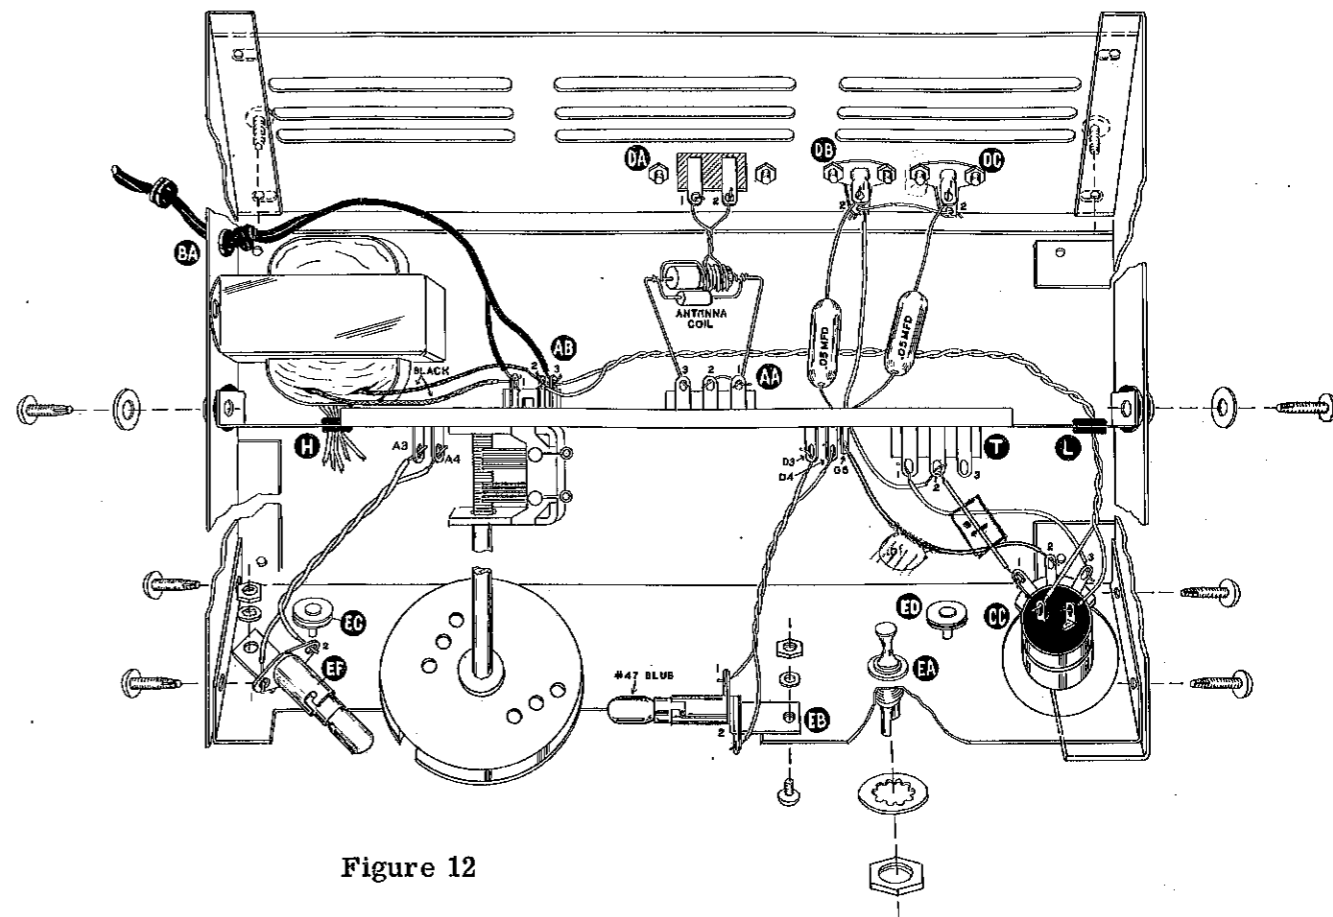
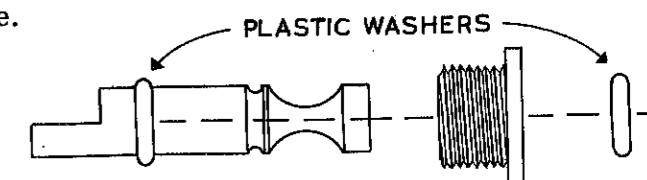
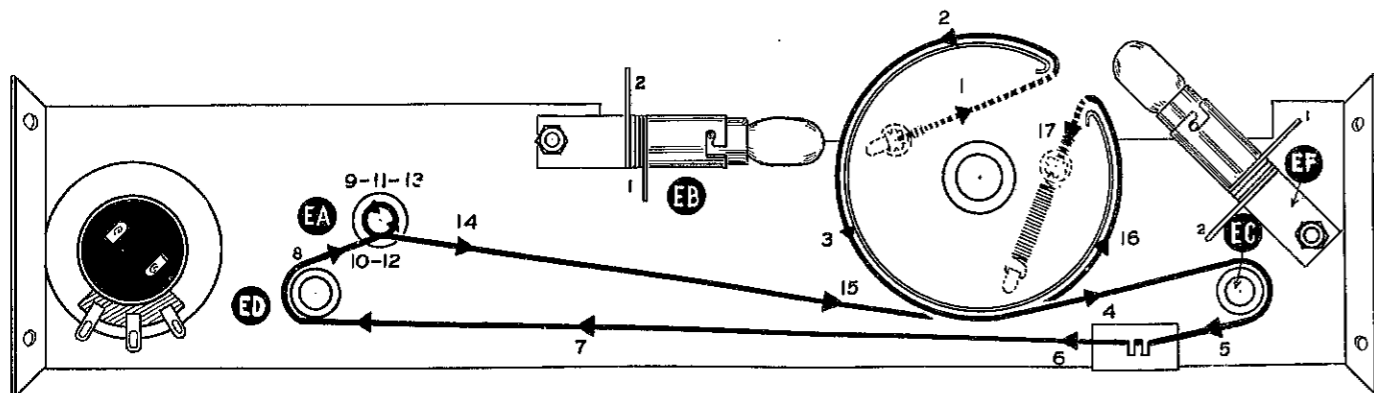

Figure 12
Figure 16
Figure 17
- (✓) Mount bracket B on the left or tuning condenser end of the chassis, with the transformer fitting over the chassis top as shown in Figure 12. Place a 9/16" washer on a 6-32 self-tapping screw and insert through the spacer previously installed in grommet BH. Line the screw up with the top chassis opening and secure the assembly. Before completely tightening the screw, start the second self-tapping screw and washer through the bottom opening BJ. Now tighten both screws.
- (✓) Install two 7/16" grommets in the large openings in the right hand bracket and insert the 3/16" metal spacers in each grommet. Install the bracket on the right hand end of the chassis in the same fashion. The large hole should be forward. See Figure 12.
- (✓) Place the red, red-yellow and green power transformer leads through grommet H on the chassis. Cut one green lead to length sufficient to reach socket A3, strip and tin the lead and connect it to A3 (NS).
- (✓) In the same fashion, connect the remaining green lead to socket A4 (NS).
- (✓) Cut two wires to a length of 3 1/2". Strip all four ends and twist together. At one end of the twisted pair, connect one lead to socket A3 (S) (3) and the other to A4 (S) (3).
- (✓) Connect the red-yellow lead to terminal strip M2 (S) (1).
- (✓) Connect a red lead to socket A1 (S) (1). Dress over the socket to keep this lead above the chassis edge.
- (✓) In the same manner, connect the remaining red lead to socket A6 (S) (1).
- (✓) On top of the chassis, connect one black transformer lead to terminal strip AB1 (NS). See Pictorial 2.
- (✓) Connect the remaining black lead to terminal strip AB2 (NS).
- (✓) Mount pilot lamp socket EF on the dial plate with 6-32 hardware. Observe Figure 12 and 17.
- (✓) Mount the dial plate as shown in Figure 12, with the long cut-out facing upward. Secure with 6-32 self tapping screws in the four foremost holes in the end brackets.
- ( ) Install the back plate with the bent flange to the bottom. Use 6-32 self-tapping screws in the bottom holes at each end only, as shown in Figure 12.
- ( ) Connect one of the twisted leads of the antenna coil to terminal strip DA1 (S) (1) and the remaining lead to DA2 (S) (1).
- ( ) Connect a bare wire from connector ground lug DB2 (NS) to connector ground lug DC2 (S) (1).
- ( ) Connect the insulated wire appearing through chassis grommet K to connector ground lug DB2 (S) (2).
- ( ) Connect the free lead of the .05  $\mu$ fd 400 volt condenser previously bent toward socket B to connector DB1 (S) (1).
- ( ) Connect the free lead of the remaining .05  $\mu$ fd 400 volt condenser to connector DC1 (S) (1).
- (✓) Assemble the dial drive shaft assembly as shown in Figure 16. Begin by pushing one of the plastic "O" washers on the shaft from the flatted end until it falls in place in the slot provided for it. Do not use tools with sharp edges to force the washer over the edge of the flat, for it is possible that the washer will be broken. After the first washer is in place, put a small amount of lubriplate or vaseline on the shaft. Do not use an excessive amount since it may cause dial cord slippage. Install the bushing in the direction shown in Figure 16 and install the other plastic washer from the drive side of the shaft. A spare washer is furnished in case of accidental damage during installation.
- (✓) Mount the drive shaft assembly through the dial plate from the rear at location EA. Refer to Figure 12 and note that the bushing goes through the dial plate, a large lockwasher and a control nut. Tighten securely.
- ( ) Identify the two wires previously connected to socket D3 and D4. Connect one wire to pilot light socket EB1 (S) (1) and the other to EB2 (S) (1).
- ( ) Identify the two wires previously connected to socket A3 and A4. Connect one wire to pilot light socket EF1 (S) (1) and the other to EF2 (S) (1).
- (✓) Observe Figure 17 and install the dial cord assembly. Begin by hooking one of the eyelets over the ear provided on the tuning drum. Run the cord counterclockwise around the pulley (looking from the back of the tuner), around idler pulley EC, across the dial plate to idler pulley ED, around drive shaft EA3 turns and back to the bottom side of the drum. Bring the cord counterclockwise around the drum and through the opening. Hook the dial cord spring on the remaining ear on the drum and the other end of the spring to the eyelet on the dial cord.